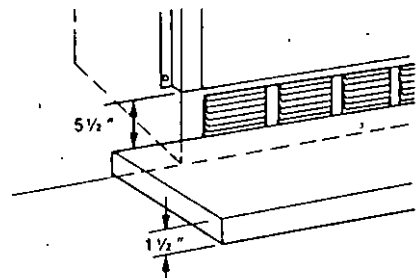

Figure 55
CAUTION: FIREPLACE MUST BE RAISED IF HEIGHT OF HEARTH EXTENSION EXCEEDS $1\frac{1}{2}$ " ABOVE BOTTOM OF FIREPLACE (FIGURE 55).
•WARNING: WHEN INSTALLING THE HEARTH EXTENSION BE CAREFUL NOT TO BLOCK THE HEAT CIRCULATING AIR INLETS (FIGURE 55).